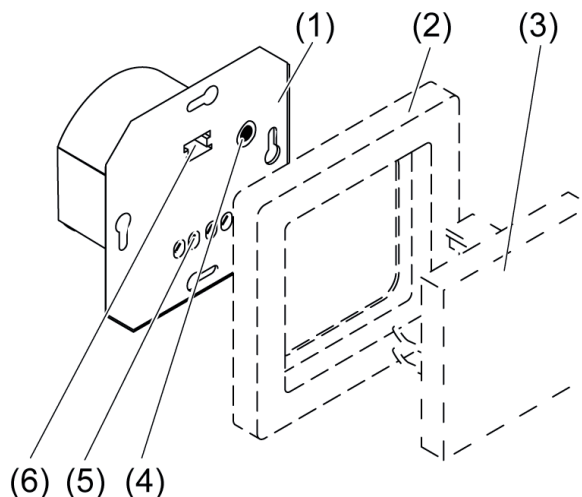

Figure 1: Device components
- Press button **Dimm-Mode** (4) (Figure 1) for longer than 4 seconds.